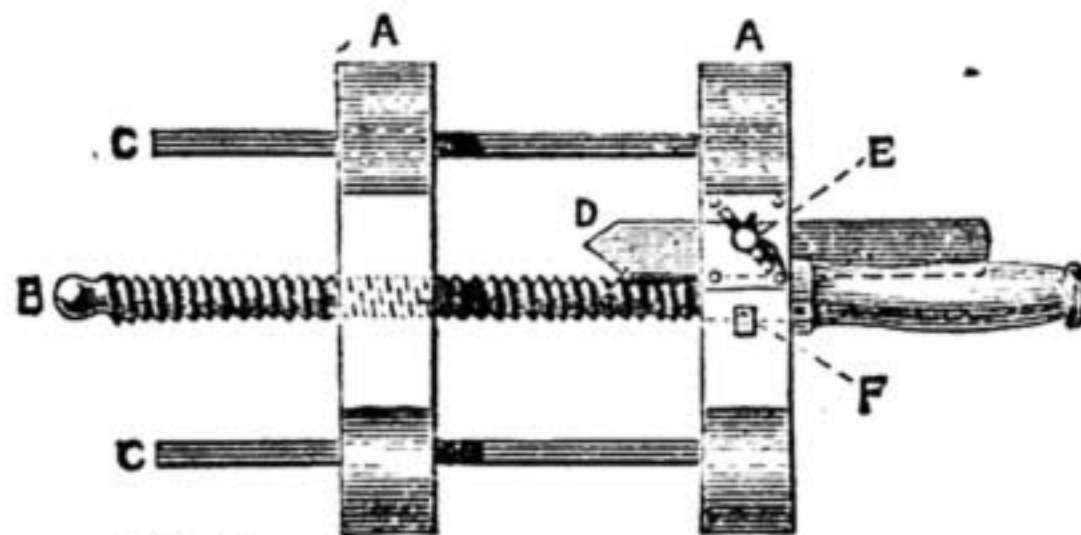

Fig. 1.
**Book Edge Cutting.**—F. H. (*Walsall*).—There will shortly be published in these pages a series of articles on bookbinding proper, from which I hope you will learn all about "cutting edges," and not only this but everything in connection with the art. You are quite right about the plough. There is such an article, and it is used in conjunction with the press—the lying press as it is technically called. In the meantime I will give you instructions for making a plough, which I trust will be sufficiently plain. If you know anything about wood-working, I don't think it will be a very difficult task to execute. Fig. 1 shows the complete tool looking from above. Fig. 2 is a side view. The correct
Book Edge Cutting. Fig. 1.—Bookbinders' Plough looking from above. Fig. 2.—Side View. Fig. 3.—Detail of Wooden Screw, B. Fig. 4.—Enlarged View of Knife Bolt
**Machine for Current of Air.**—J. A. P. (*Accrington*) writes:—"In looking through 'Shop,' I have noticed several replies to BELLOWS (see page 190). The fans sent have been out of shape and proportion in my mind. One with the wings bent the wrong way; and the one in No. 35, page 557, would blow very little, as the pulley on the fan is too big, and the driving wheel too small. It is made left-handed, and the hole in the pipe is not large enough. You cannot force a fan like you can bellows. It wants more play, as you will see by looking at Fig. 1. The pipe being much larger, the
spider should not run close to the case all the way round, but as marked in Fig. 1. Now as to making it. Do not use wood, as it dries in more one way than another, and I know cardboard is useless, as both have been tried many a time, and do not pay for the time in making. If they are worth making, make them well. I find tin to be best for these small fans. This is the handiest size that I know of. Fan 6 in. diameter, pipe 1½ in. long, 2½ in. square at fan, and 1½ in. at end. Driving wheel 7 in. diameter fully on spindle, ¾ in. groove. If you have followed WORK up in soldering, and other things, BELLOWS should be able to make this."